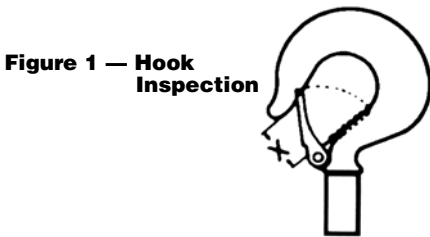

Figure 1 — Hook Inspection
- b. Check hooks for deformation, cracks, or chemical damage. Hooks having more than 1" throat opening should be replaced, (See Figure 1, page 5).
Refer to Figure 1.